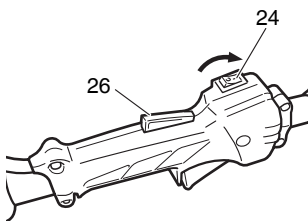

Fig. 21
1. Set ignition switch (24) to ON position. (Fig. 21, 22)